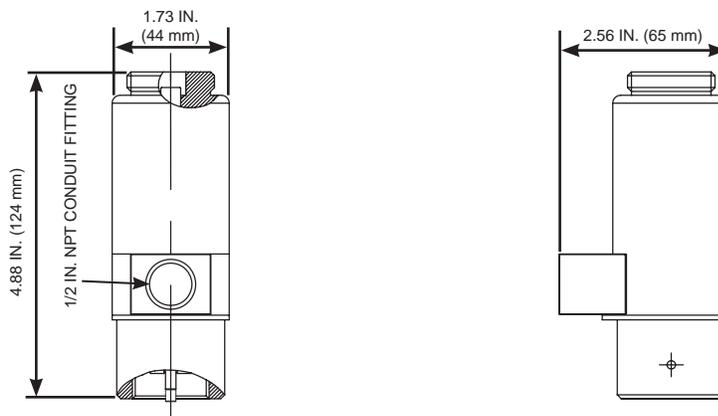

FIGURE 2
Dimensions (see Figure 2)	4.88 in. (H) x 1.73 in. (D) (124 mm (H) x 44 mm (D))